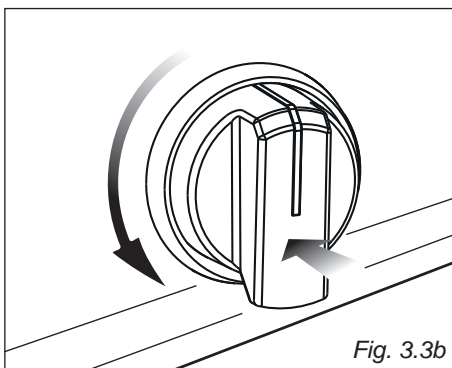

Fig. 3.3b
1. Push and turn the knob in an anti-clockwise direction up to the position ★🔥🔥 (maximum rate of inner + outer crown); push in and hold the knob until the flame has been lit (fig. 3.3b). The sparks produced by the lighter situated inside the relative burner will light the flame.